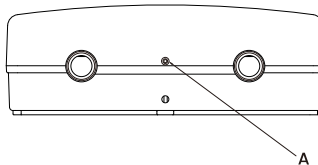

Figure 3
Step 2: Use a cross screwdriver to remove the screw at point A, then open the front case (Figure 3).